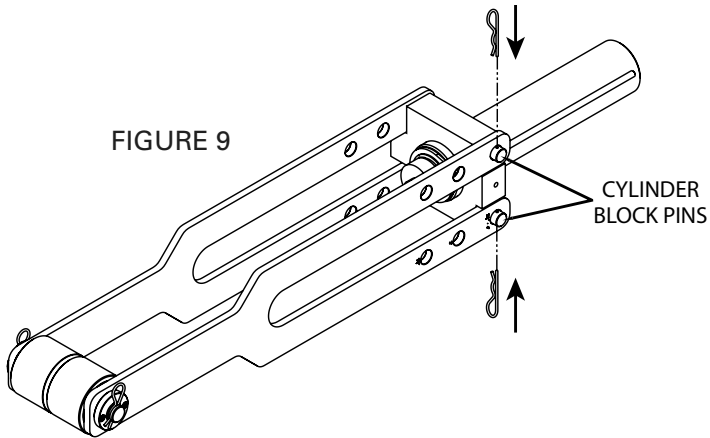

FIGURE 9
- Place the hydraulic cylinder with the cylinder mounting block between the frame sides as shown in Figure 9. Insert the two cylinder block pins into the appropriate frame side holes for the size of conduit to be bent and secure each with a spring clip.
NOTE: The hydraulic cylinder with mounting block in Figure 9 is shown pinned in the position for bending 4" conduit. The frame side holes are marked to indicate where to pin the mounting block for each size.